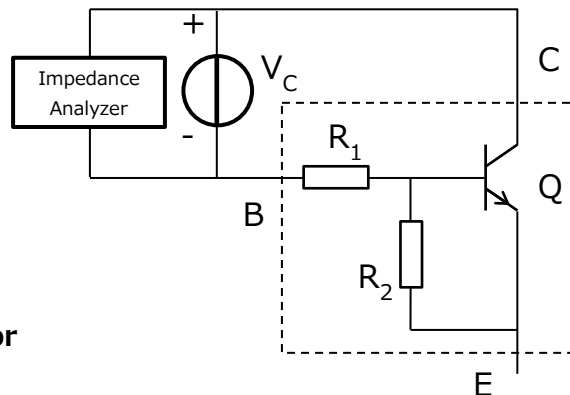

Figure 4-10 Circuit for measuring collector output capacitance (C_{ob})
Collector output capacitance (C_{ob}) is measured by applying V_C across the collector (C) and base (B) terminals with the emitter (E) terminal open-circuited as shown in the test circuit of Figure 4-10.